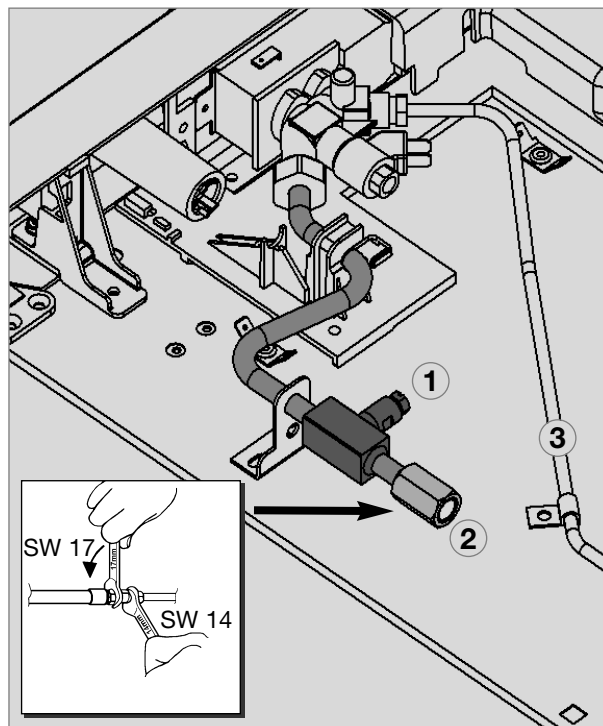

Fig. 33
- The gas connection to the appliance is 1/8"BSP Female (s. figure 33).